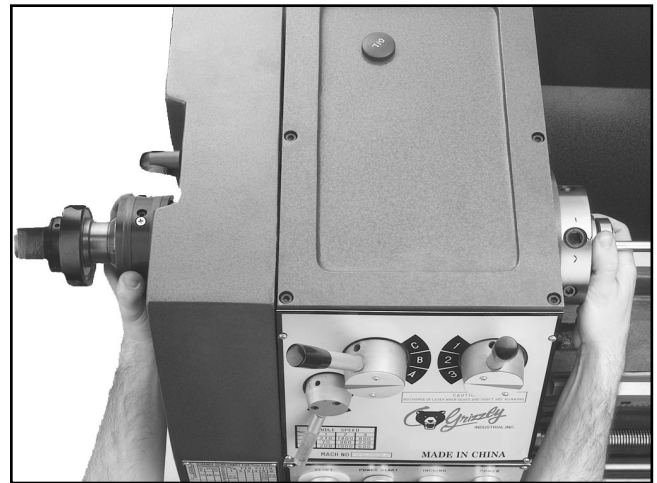

Figure 8. Rotating collet in spindle to engage with adjusting hub.
3. Hold the adjusting hub with your left hand and thread the collet and adapter into the front spindle with your right hand to engage the draw tube, as shown in **Figure 8**.
3. Gently push on the end of the draw tube until it engages the collet threads in the spindle, and rotate the adjusting hub in a clockwise fashion (as viewed from the outboard end of the lathe in **Figure 8**).